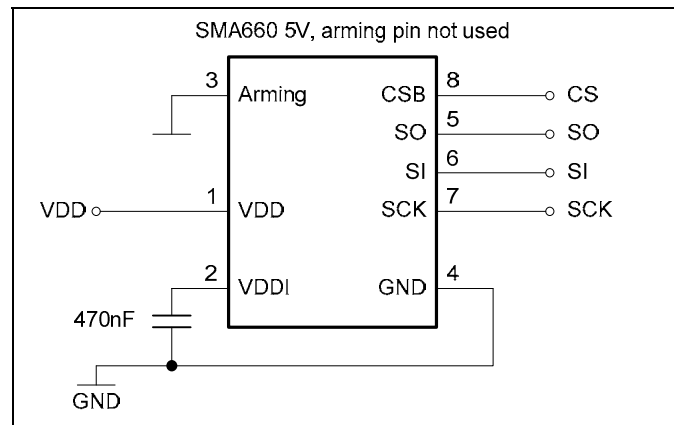

**Figure 5-3** Typical system setup using SMA660 sensors with 6.7 V supply voltage.
**Figure 5-3** shows typical system setup with 6.7V supply voltage. If Arming is required Arming Pin should connect over a resistor to VDD (see **Figure 2-14**). The SO-Voltage-Level is derived from VDDI.